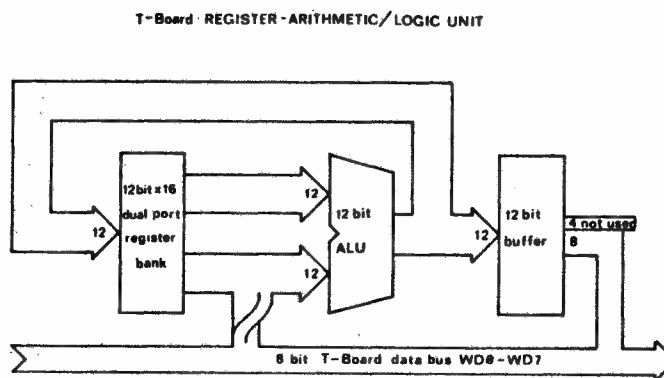

Figure 3-2
- the Register & Arithmetic/Logic Unit (figure 3-2);